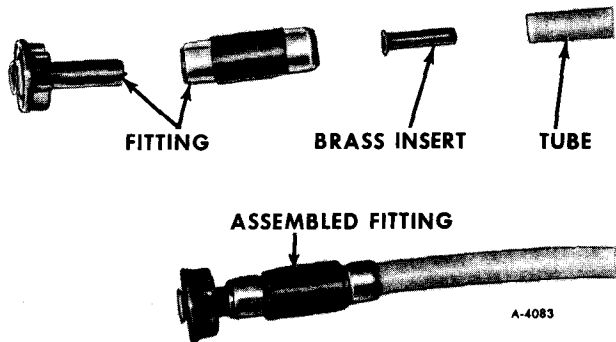

Figure 14—Coupling Assembly
2. Place brass insert into end of tube and put appropriate fitting over it (figure 14).